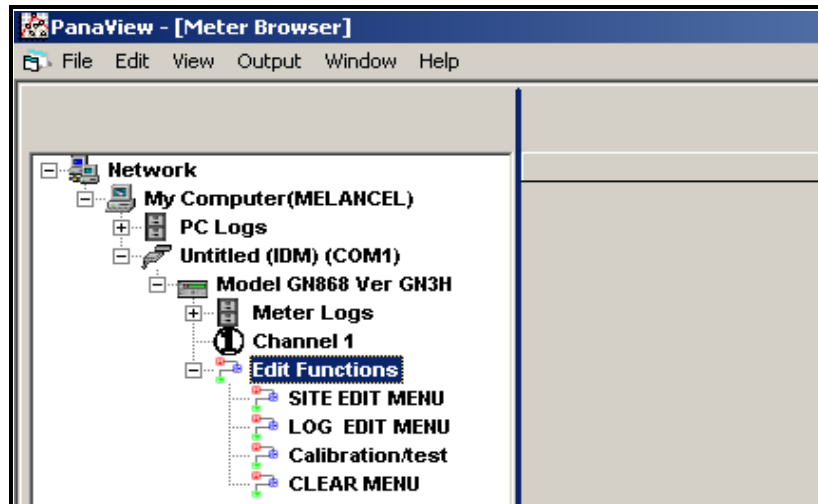

Figure D-19: Meter Tree with *Edit Functions* Option
- From the meter tree, expand the *Edit Functions* option. The window now appears similar to Figure D-19 below, with a list of available menus. The menus listed are those available on the meter. (For illustration purposes, the specific menus shown are those for a one-channel GN868 flowmeter.)